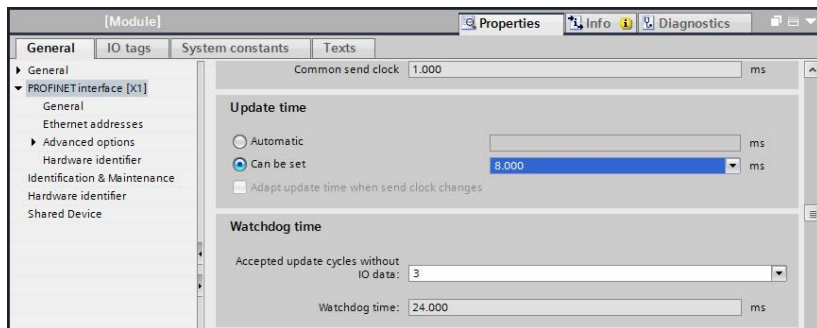

Figure 71: Set I/O Cycle Update Time
3. Set the I/O cycle **Update time** and **Watchdog time** as shown in Figure 71.